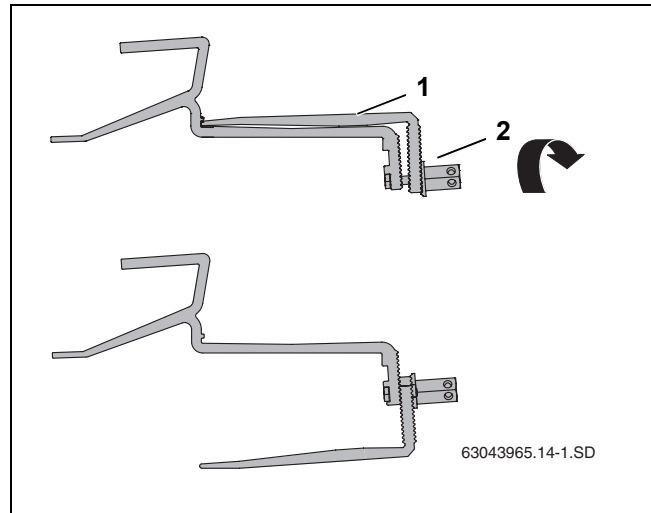

Fig. 11 Rotate lower part of roof hook
- ▶ Loosen the long hexagon nut (Fig. 11, [2]) on the roof hook and place the lower part of the hook (Fig. 11, [1]) in the correct position.